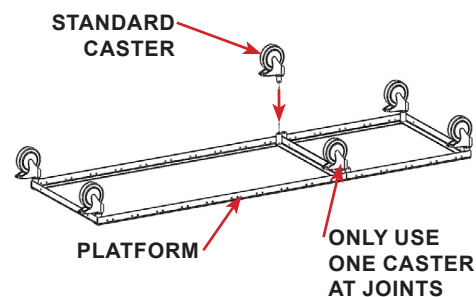

FIGURE 2.12 - Cage Bank Platform
STEP 2: For multiple platform assemblies (attached in series), insert a caster into each of the four end corners. See FIGURE 2.12
STEP 3: Insert one caster in the front and back where the platforms are joined together. There are two sockets where the platforms join, only one caster is required at the platform joints. See FIGURE 2.12